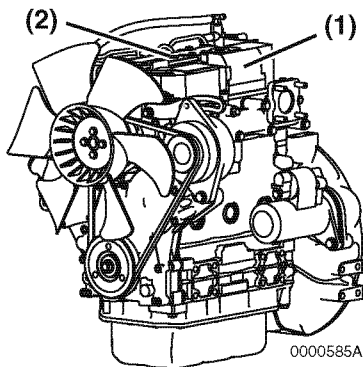

Figure 4
Figure 4 shows the location of regulatory and safety labels on Yanmar TNV series indirect injection model engines.
The typical location of the emission control information label is shown (**Figure 4, (1)**).
Typical location of the engine nameplate is shown (**Figure 4, (2)**).